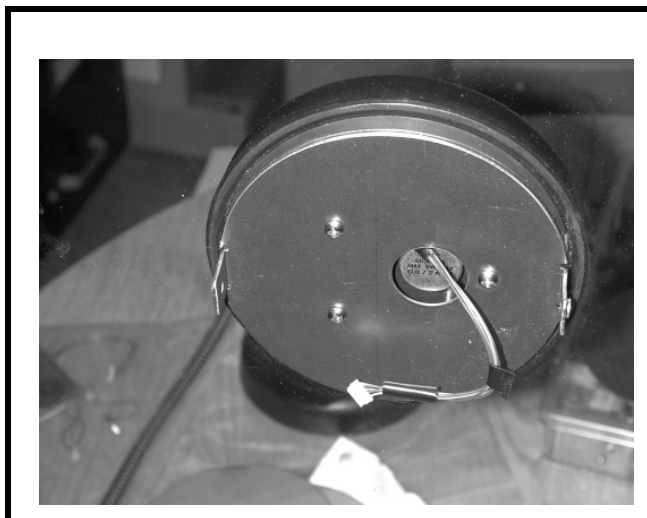

FIGURE 5. Customer Side Mounted
5. Have an assistant place the customer assembly against the window. Make sure the holes line up correctly. Attach the mounting plate removed from the operator assembly (see step 1) using the three supplied mounting screws. (See Figure 5 on page 6).